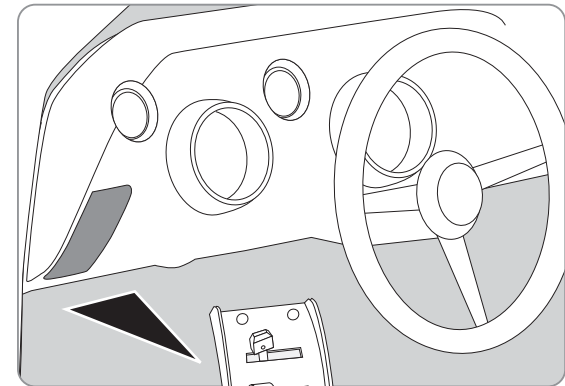

FIGURE 8
- 1) There are four OEM screws that hold your control head to the dash, two on the lower side and two on the upper. Remove and retain these screws. Remove the control head assembly (see figure 8).